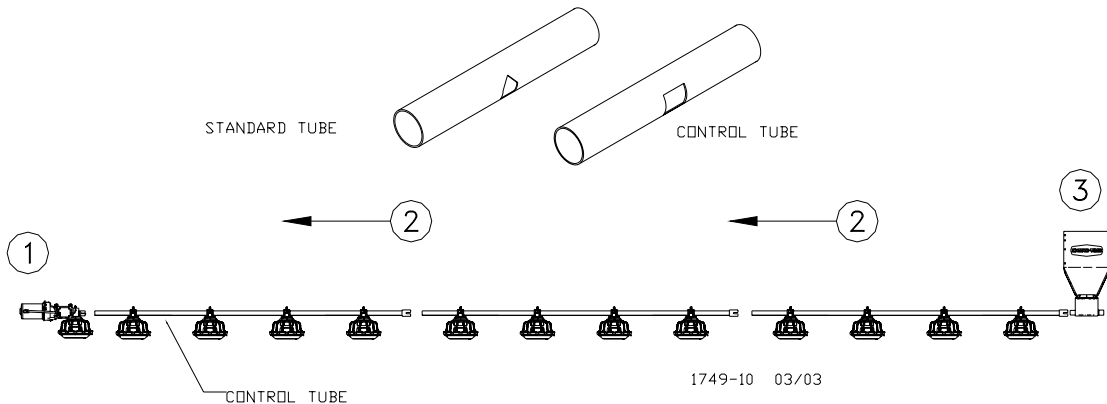

Figure 29 Attaching Feeder Tube Assemblies
1. The actuator, auger tubes and feeders may be laid out end to end in approximately the final location of the line. **The belled end of each tube should be toward the (3) Hopper end of the line.** See Figure 29. Be sure to have the correct number of right and left sided tubes with the actuator in the center (The actuator handle should be to the center of the house). One actuator handles up to 60 feeder pans with the actuator placed dividing the (60) pans approximately in half.
2. Connect the individual feeder tubes together by inserting the straight end of one tube as far as possible into the (2) belled end of the next tube. **The last Feeder Tube before the (1) End Control Pan or Mid Line Control pan must be a Control Tube.**